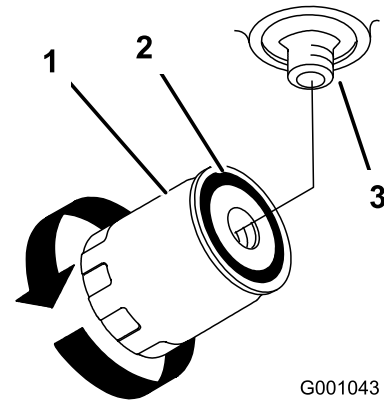

Figure 61
4. Locate the filter under the engine base and place a drain pan under the filter (Figure 61).
5. Remove the old filter and wipe the filter-adapter gasket surface clean (Figure 61).
9. When the hydraulic filter is full, turn the oil filter clockwise until the rubber gasket contacts the filter adapter, then tighten the filter an additional 1/2 turn (Figure 61).